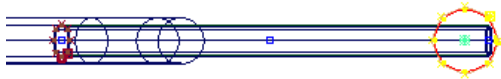

Figure 3-78 Circle after scaling uniformly
5. Enter **40** in the promptline and press ENTER; the sphere is scaled uniformly along the X, Y, and Z axes, as shown in Figure 3-78.